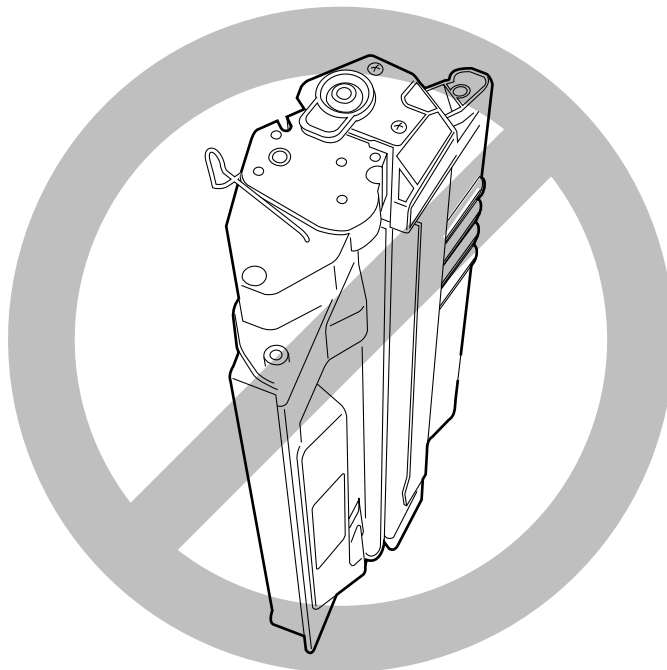

Figure 1-2
- b) As shown in Figure 1-2, do not hold the cartridge vertically or upside down. Also, do not wave it about.